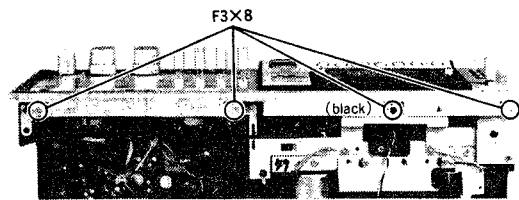

Fig. 4 Abb. 4
5. **Front panel (Fig. 4, 5)**
5. **Frontplatte (Abb. 4, 5)**
5. **Façade (Fig. 4, 5)**